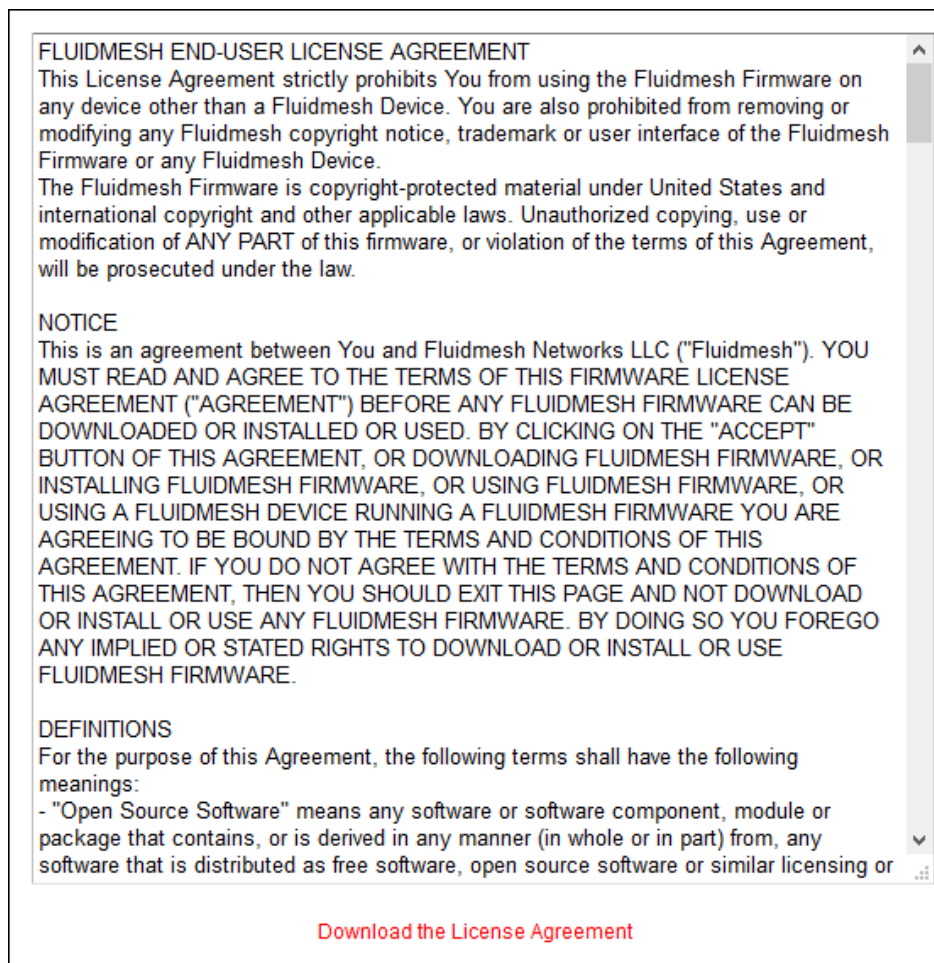

Figure 65. Configurator GUI (End-user license agreement)
- The license agreement dialog will be shown (Figure 65 \(page 150\)).